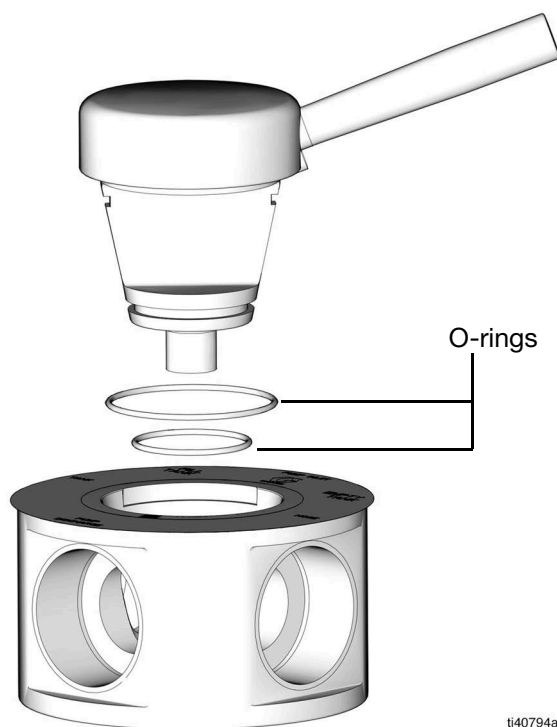

FIG. 3
2. Replace the existing o-rings (PN 114054) (FIG. 3).